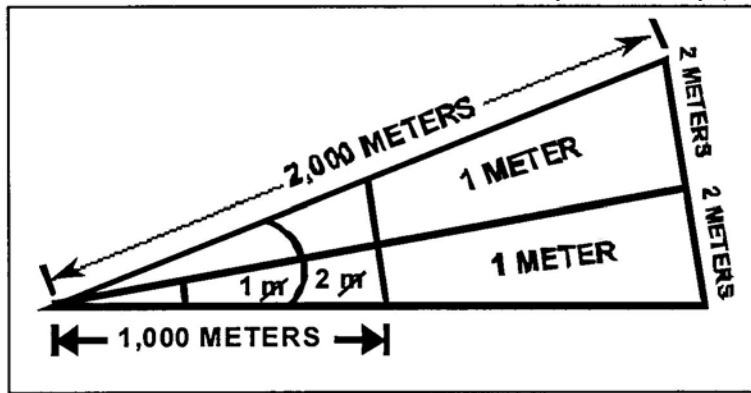
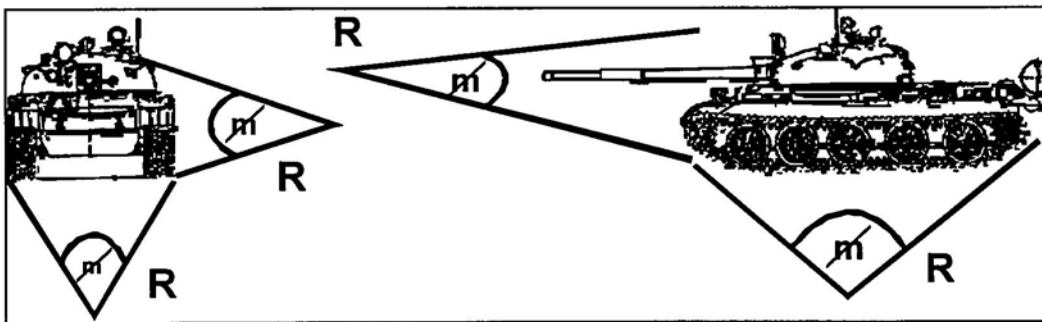

Figure 7. Mil-relation method.
Figure 8. Use of the mil-relation formula.
- b. Mil-relation method. Use the width, length, or height of the target in mils, represented by the R in the mil-relation formula, $R=W-m$, to determine the range to the target (Figure 7). The mil relation holds true whether the W is measured horizontally or vertically (Figure 8).